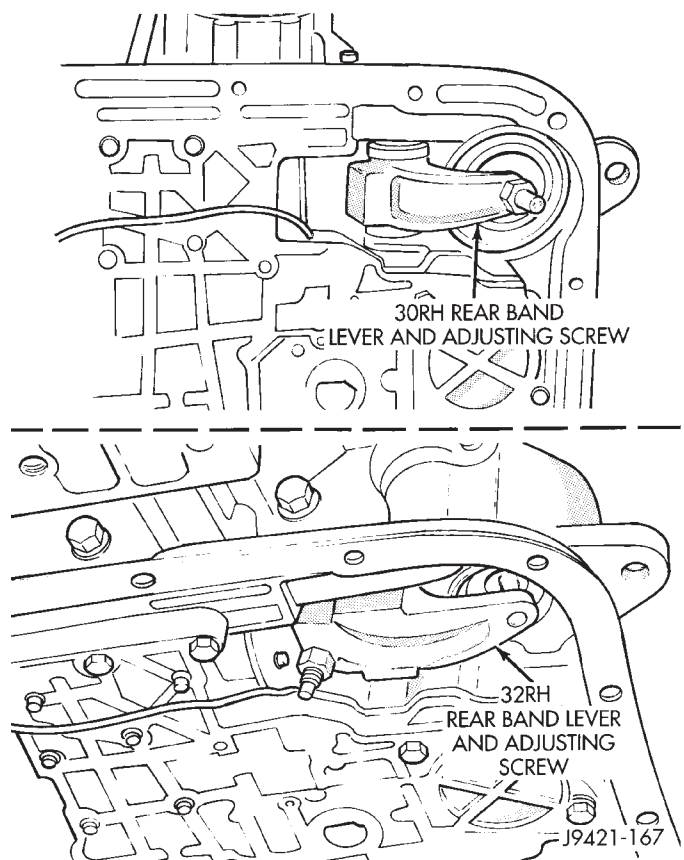

Fig. 9 Rear Band Lever And Adjusting Screw Location
(1) Raise vehicle.
(2) Remove transmission oil pan and drain fluid.
(3) Loosen band adjusting screw locknut 5-6 turns. Be sure adjusting screw turns freely in lever.
(4) Tighten adjusting screw as follows: On 32RH transmission, tighten screw to 8 N·m (72 in. lbs.) torque. On 30RH transmission, tighten adjusting screw to 5 N·m (41 in. lbs.) torque (Fig. 9).
(5) Back off rear band adjusting screw as follows:
(6) Hold adjusting screw in place and tighten locknut to 34 N·m (25 ft. lbs.) torque.
(7) Position new gasket on oil pan and install pan on transmission. Tighten pan bolts to 17 N·m (150 in. lbs.) torque.
(8) Lower vehicle and refill transmission with recommended fluid.